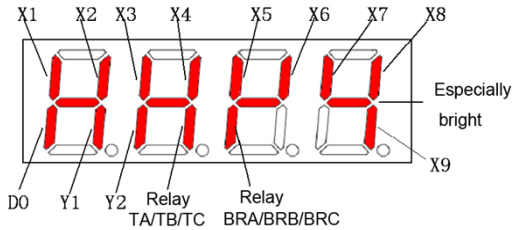

Fig6-26 Terminal status diagram
- ◆ The terminal status are shown by four LED units without unit indicator, the specific meaning shown in figure 6-26.